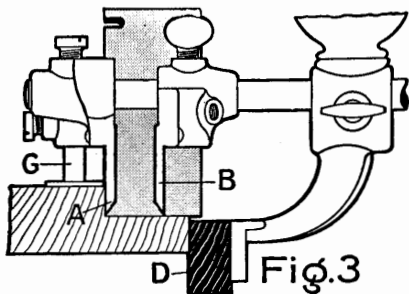

Fig. 3
**Fig. 3—RABBET AND FILLETSTER**—Attach Fence (D), putting Arms through upper holes. The Fence regulates the width of the cut and if required, slides under the cutter. The Sliding Section (B) also slides under the cutter, forming a support on the outer edge of the rabbet. Gauge (G) regulates the depth of the cut.